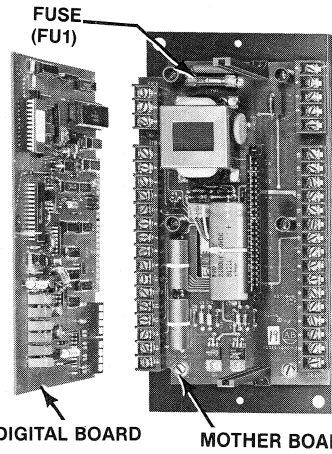

Figure 5. RTD Module with cover removed
Circuit Board Replacement- The RTD Module consists of a mother board and RTD Digital Board. Refer to Figure 5. Use the following procedure for board replacement.
1. Orient the board so the components are facing to the right as shown in Figure 5. The board is "keyed" so it fits into the mother board only in one manner. This is to prevent against incorrect installation.
Fuse Replacement- The Line Fuse labeled FU1 is located at the top of the transformer to the left of the top card rail on the mother board. Refer to Figure 5. Replacement of this fuse should be coordinated with the appropriate part number in the Renewal Parts List.